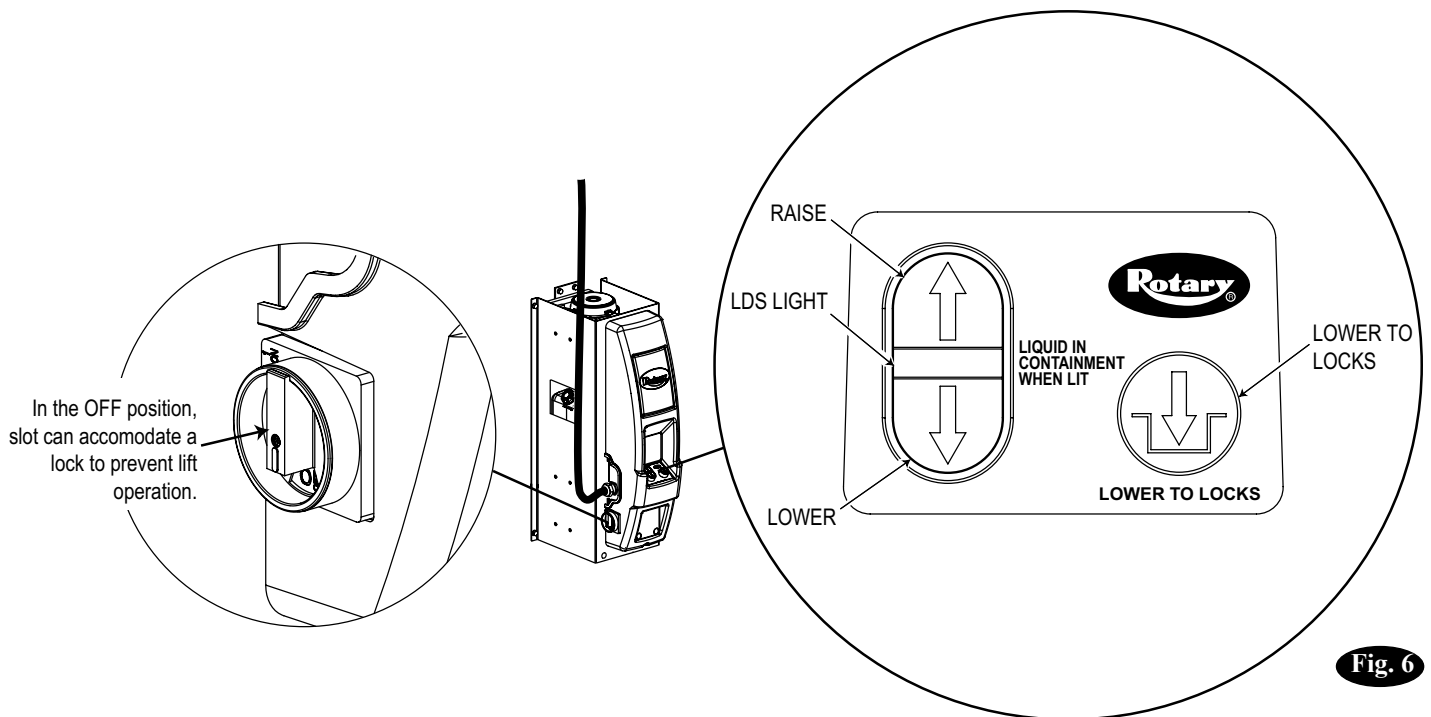

Fig. 6
- A. Push  RAISE button on the touch pad, Fig. 6. Raise lift until vehicle tires clear the floor.